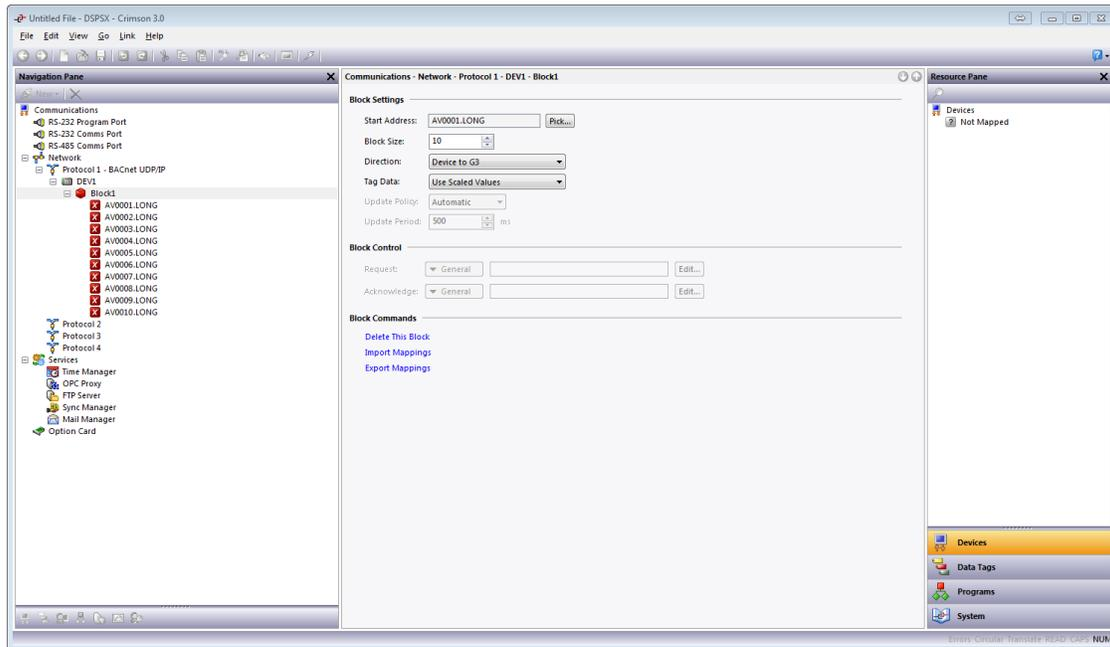

Figure 15.
12. Referring to Figure 15, set the **Block Size:** field to the desired number of data points; *10* in this example.